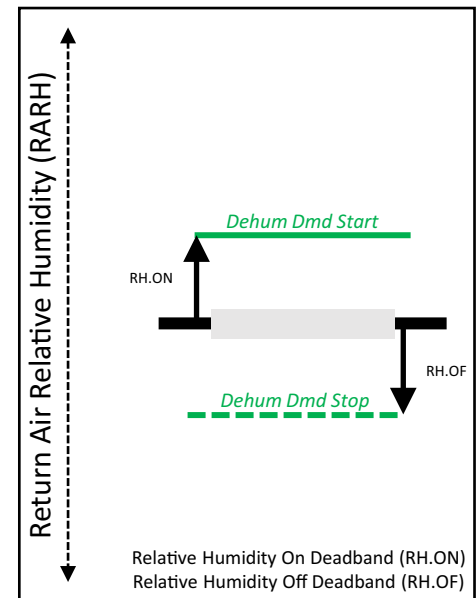

Fig. 83 — SPRH Demand Processing
When the dehumidify demand source is set to SPRH, the control monitors the local or network SPRH input and compares it to the dehumidify relative humidity (RH) setpoint to determine if there is a dehumidify demand. Deadbands adjust when the demand starts and stops compared to the dehumidify setpoint. SPRH is recommended for single-zone applications or multi-zone applications with a critical space. See Table 43 on page 76 for SPRH demand levels and Fig. 83 for SPRH demand determination.